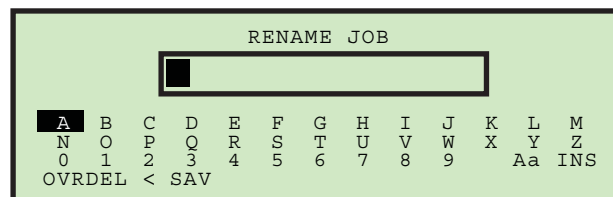

Figure 46: Rename Job screen
2. Use the Arrow buttons to select an existing job, and press Enter. The RENAME JOB screen appears (Figure 46).